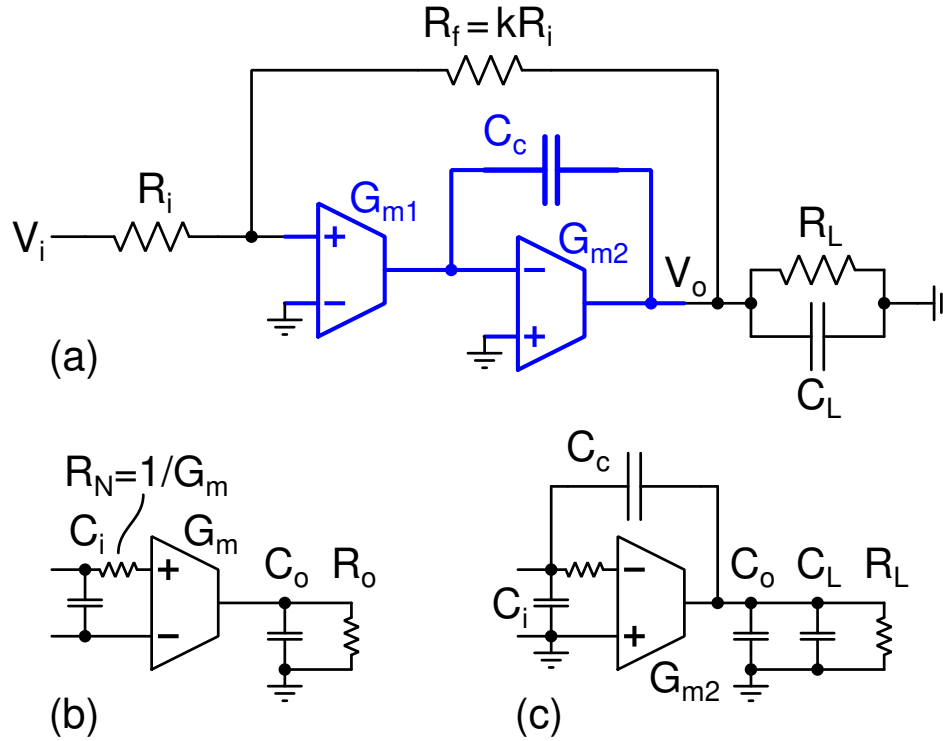

Figure 5.1: Problem 5.1.
5.1. Fig. 5.1(a) shows an inverting amplifier of gain $-k$ using a two-stage Miller-compensated opamp (shown in blue). The specifications are given below.
Model each transconductor as shown in Fig. 5.1(b). $C_i = C_o = G_m/\omega_T$, $\omega_T = 2 \times 10^{10}$ rad/s, $G_o = G_m/100$. $R_N = 1/G_m$ to model the thermal noise.
- Use the network shown in Fig. 5.1(c) to determine G_{m2} from the constraint on the non-dominant pole. This network consists only of G_m and its associated parasitics, G_L , C_L , and C_c . You will get a quadratic equation for G_{m2} . You can neglect the output conductance of G_{m2} at this step.
- (c) Add all the components to realize the closed loop amplifier. Each transconductor must be modeled as shown in Fig. 5.1(b).